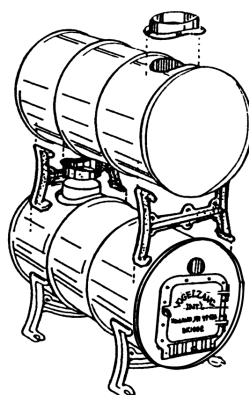

Fig. 2 – Double Barrel Stove Kit BK50E
7. On opposite (front) end of top barrel, mark, cut and attach damper collar for chimney connection (fig. 2).